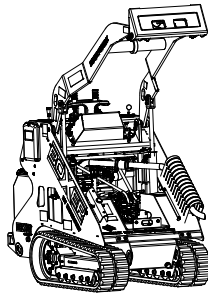

Figure 4-3 Engine Oil Fill
- c. If the engine oil level is below the add line, indicated by the letter “A” on the dipstick, carefully add the proper amount of oil through the engine oil filler (Item 1, **Figure 4-3**). The correct SAE viscosity grade of oil is determined by the minimum ambient temperature during cold engine start-up, and the maximum ambient temperature during operation. The engine is filled at the factory with Chevron Delo 400 Multigrade SAE 15W-40. The recommended ambient temperature range for this oil is 14° F (-10° C) minimum to 122° F (50° C) maximum. Refer to the engine Operation and Maintenance Manual for additional information on the proper selection of engine oil.